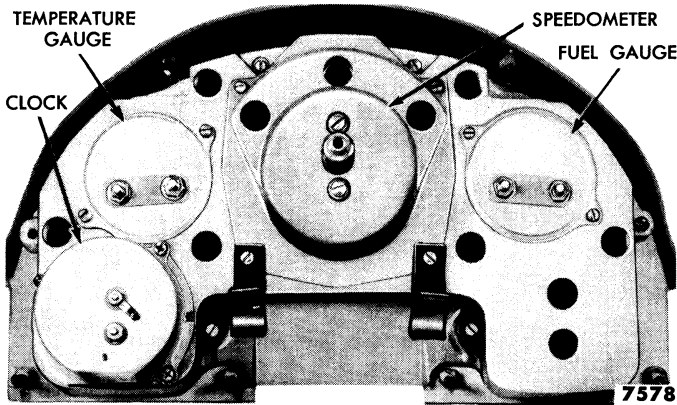

Fig. 28—Instrument Cluster—Rear View
(2) **REMOVAL AND REPLACEMENT.** The speedometer unit may be removed from the instrument cluster without removing the cluster. Disconnect the speedometer cable from the unit and remove the four speedometer mounting screws. Rotate the unit about a quarter turn clockwise and remove it from the cluster. Replace the speedometer by reversing the removal procedure. Figure 28 shows a rear view of the instrument cluster.